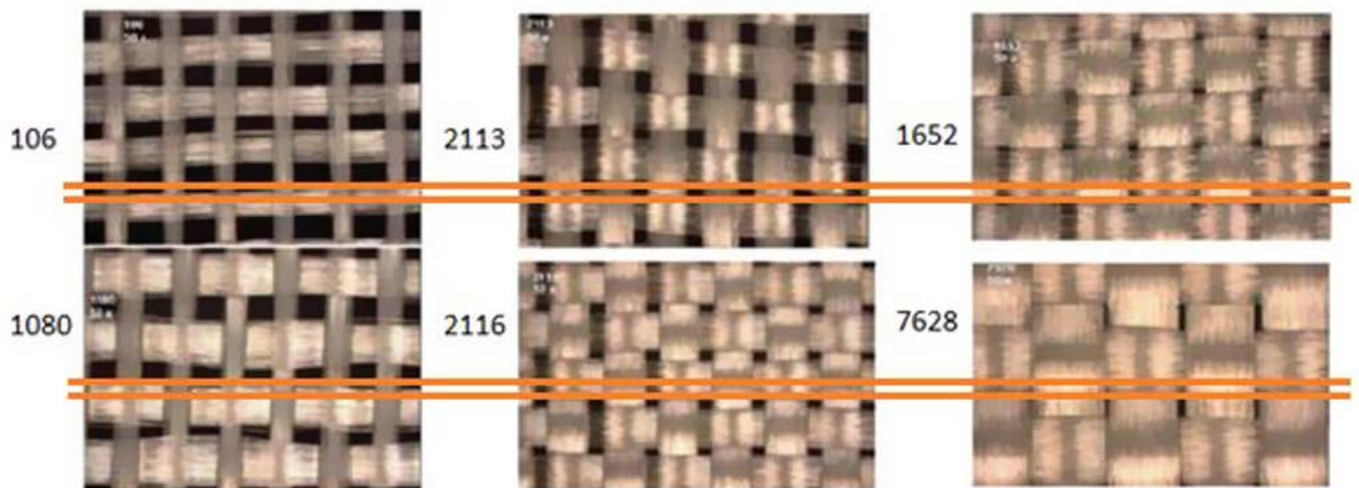

Figure 4. Different types of fiberglass weaves compared to a differential pair. (Courtesy of Altera)
Close attention should also be paid to the skew associated with the fiber weave effect. For high-speed data rates of 5 Gbps and above, this skew significantly cuts into the available jitter unit interval (UI) budget and leads to a reduction in the observed eye width at the receiver. If the flexibility exists, specify a denser weave material (2113, 2116, 1652 or 7628) compared to a sparse weave (106 and 1080). Figure 4 compares the different types of fiberglass weaves to a 4/4 mil differential pair. Notice that one side of the pair can be routed over the fiberglass and the other over the gap (resin), depending on the placement. The different dielectric constants create skew. Routing the differential signals diagonally across the weave can reduce this skew considerably.